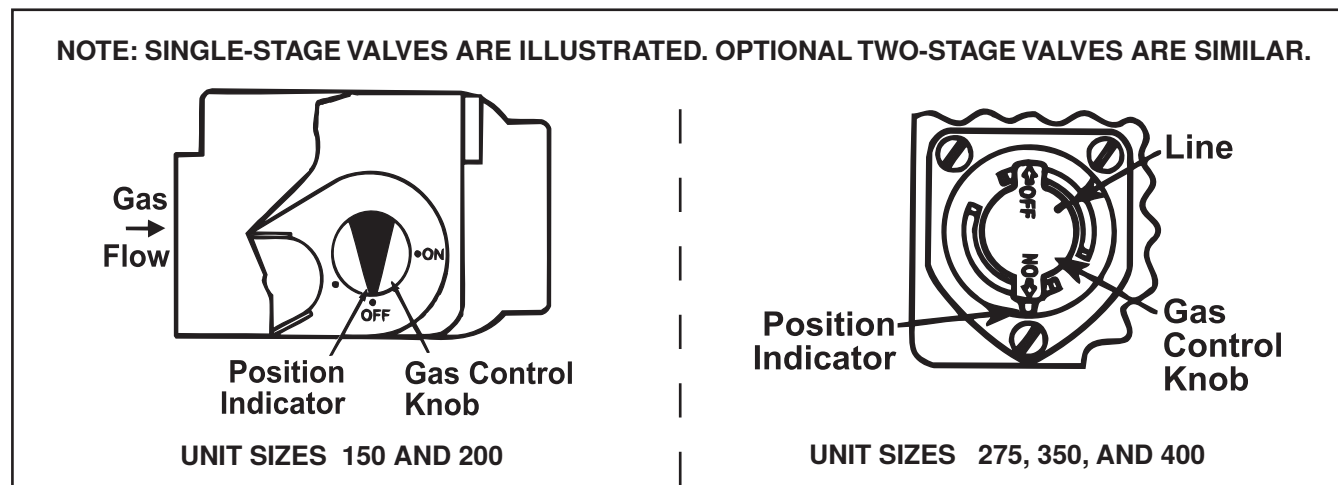

Figure 26. Typical Gas Control Knob
4. See **Figure 26**. For unit sizes 150 and 200, locate gas control (ON/OFF) knob on gas valve and turn gas control knob clockwise to OFF. For unit sizes 275, 350, and 400, locate gas control (ON/OFF) knob on gas valve and turn knob clockwise so that line on knob aligns with position indicator. Depress knob and continue rotation to OFF position.
6. See **Figure 26**. For unit sizes 150 and 200, turn gas control knob counterclockwise to ON. For unit sizes 275, 350, and 400, turn knob counterclockwise so that line on knob aligns with position indicator. Allow knob to pop up and continue rotation to ON position.